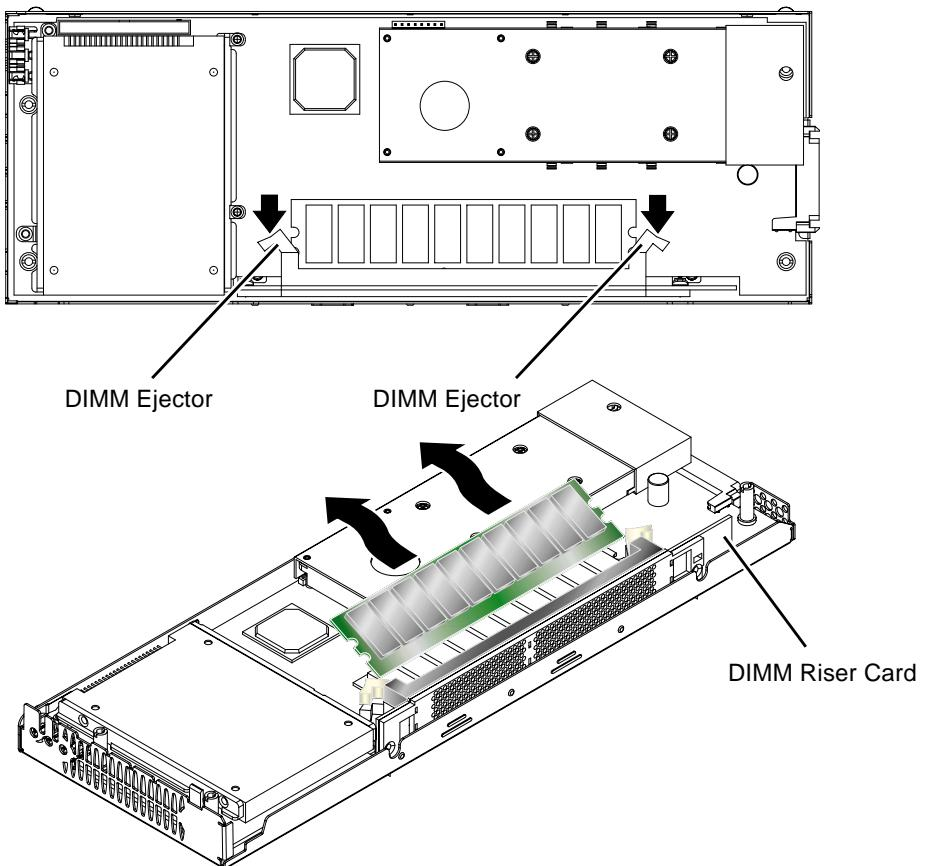

FIGURE 3 Removing the Existing DIMM
3. Remove the DIMMs by pressing the DIMM ejectors firmly (FIGURE 3).